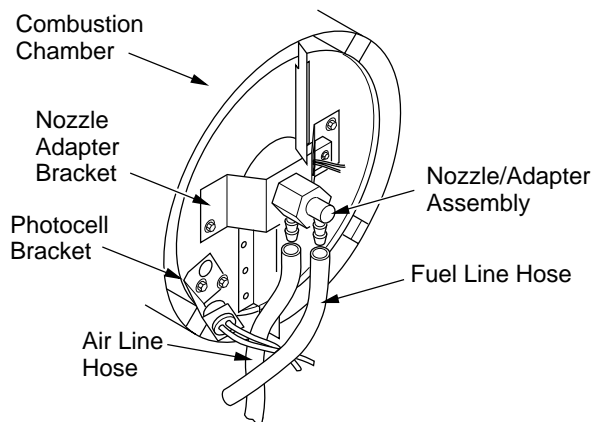
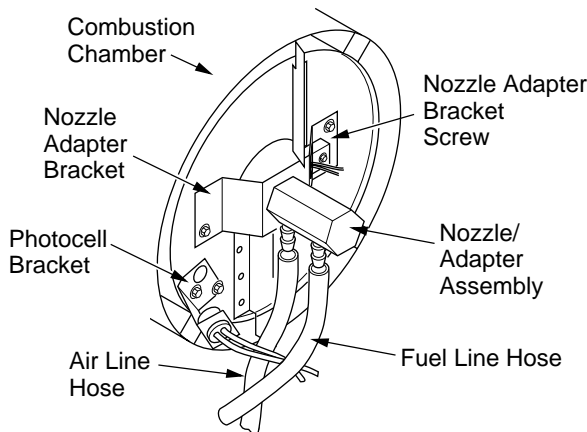
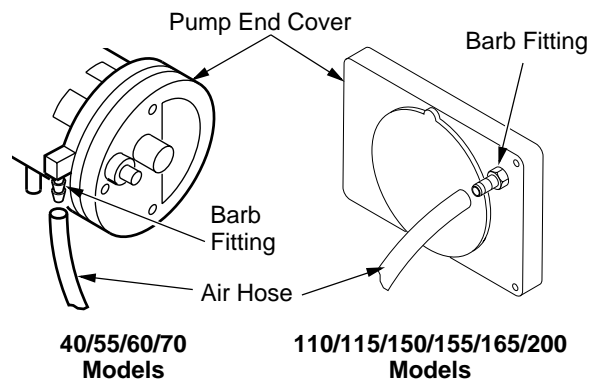

Figure 21 - Removing Air and Fuel Line Hoses (40/55/60/70 Models Only)
Figure 26 - Removing Air and Fuel Line Hoses (200 Model Only)
Figure 28 - Air Hose to Barb Fitting
14. Replace photocell in photocell bracket. Route wires as shown in either (see Figures 21, 22 or 23, page 12 or Figure 26, page 13).
3. Remove fuel and air line hoses from nozzle assembly (see Figure 21, 22, or 23).
3. Remove two nozzle adapter bracket screws (see Figure 26).
4. Inspect fuel and air line hoses for cracks and/or holes. If fuel line hose is damaged, disconnect from nozzle adapter (see Figure 21, 22, or 23, page 12, or Figure 26) and from fuel filter (see *Fuel Filter*, pages 9 and 10). If air line hose is damaged, disconnect from nozzle adapter (see Figure 21, 22, or 23, page 12, or Figure 26) and from barb fitting on pump end cover (see Figure 28).
5. Install new air and/or fuel line. Attach one end of air line hose to barb fitting on pump end cover (see Figure 28) and the other end to nozzle adapter (see Figure 21, 22, or 23, page 12, or Figure 26). Attach one end of fuel line hose to fuel filter (see *Fuel Filter*, pages 9 and 10) and the other end to nozzle adapter (see Figure 21, 22, or 23, page 12, or Figure 26).
Note: Route hoses as shown in see Figure 21, 22, or 23, page 12, or Figure 26, according to model. Hoses are not to touch photocell bracket.